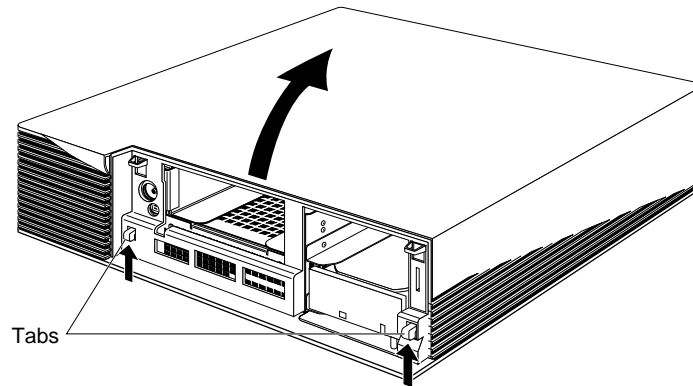

Figure 8-3 Removing the Top Cover From the Indigo² Chassis
- Pull up on the cover and rotate it back and away from the chassis, as shown in Figure 8-3.